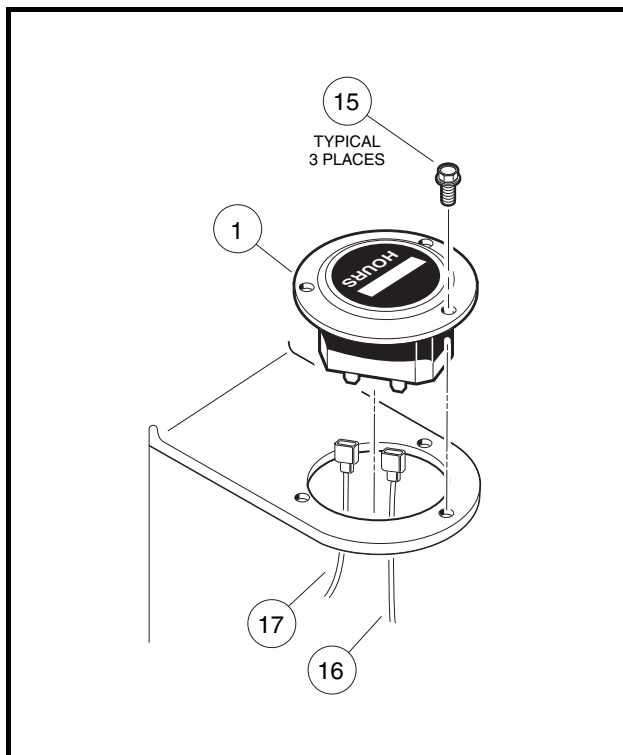

Figure 12-24 Hour Meter
3. Locate the hour meter (1) on the component mounting plate and remove the two wires (16 and 17) connected to the terminals on the bottom of the meter (**Figure 12-24, Page 12-25**).
4. Remove the three screws (15) securing the hour meter to the component mounting plate.
1. Insert the hour meter (1) into the mounting location on the component mounting plate (**Figure 12-24, Page 12-25**).
2. Secure the meter to the component mounting plate with three screws (15).